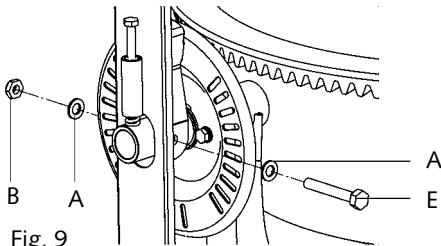

Fig. 9
- Secure the connection with bolt (E), washers (A) and nut (B) (Fig. 9).